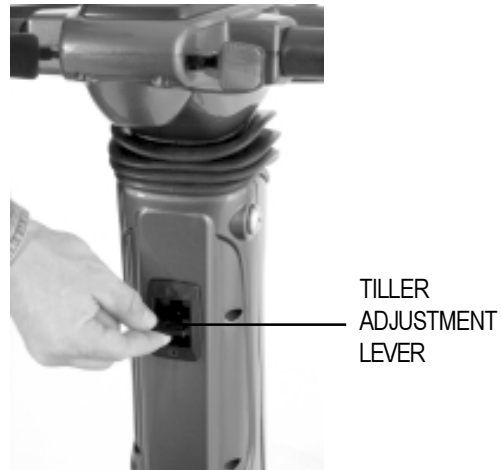

FIGURE 13. TILLER ADJUSTMENT
1. Pull up on the tiller adjustment lever. See figure 13.